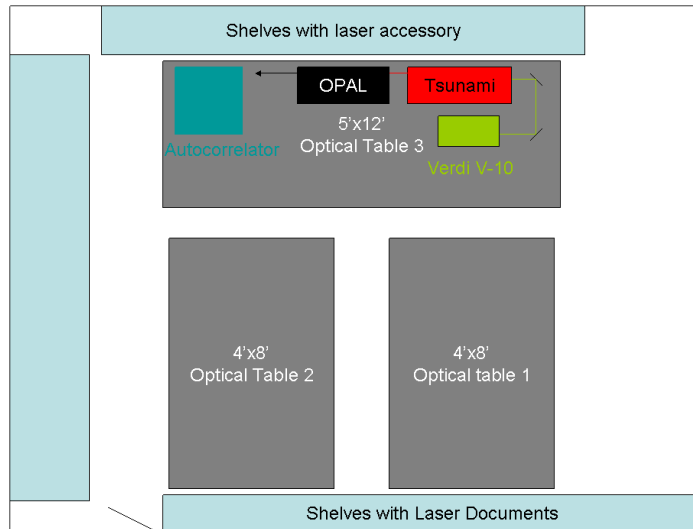

Fig. 1: Location of Lasers and documents
- Location: 5'x12' optical table 3(Fig. 1 )